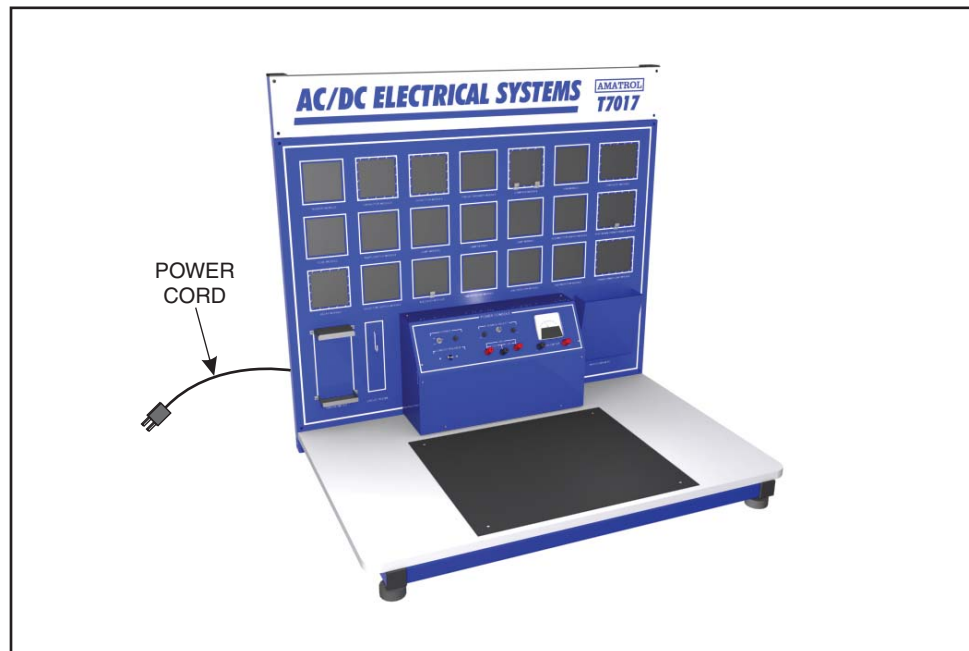

Figure 2-1. The Model T7017 AC/DC Electrical System
- 1. Position yourself in front of the Model T7017 AC/DC Electrical System shown in figure 2-1.